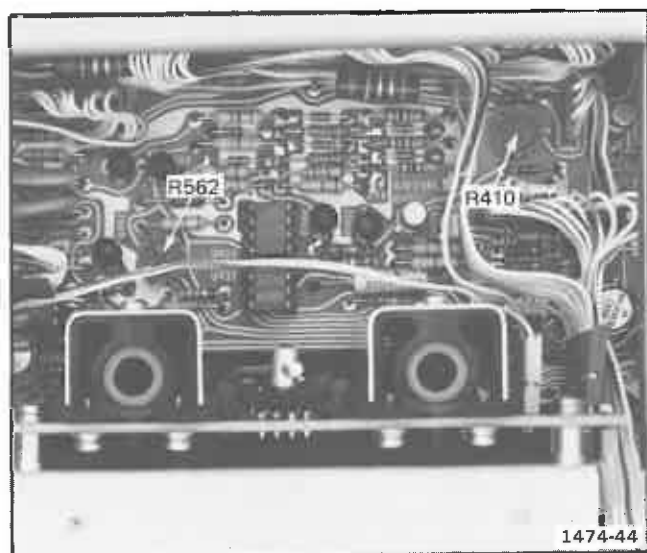

Fig. 5-5. Location of R562 and R410.
e. ADJUST—R562, Supply Cal, for 60.0 volts. See Fig. 5-5 for location.
- c. Adjust Sweep Freq Adj. R410, for one cycle per division. See Fig. 5-5 for location.